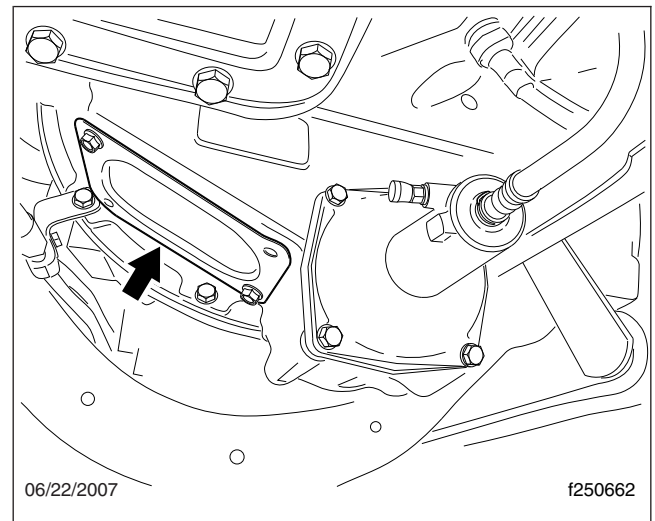

Fig. 1, Typical Clutch Inspection Plate
2. Remove the clutch inspection plate to see the release bearing while lubricating it. See Fig. 1.